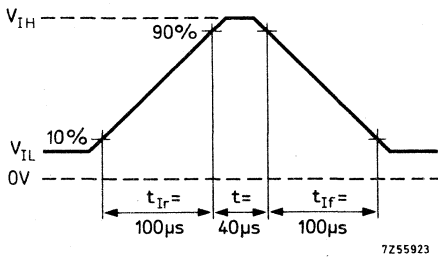

Fig. 2 Input voltage: V_I
1) See also Fig. 2 on page 5 and Fig. 4 on page 6.